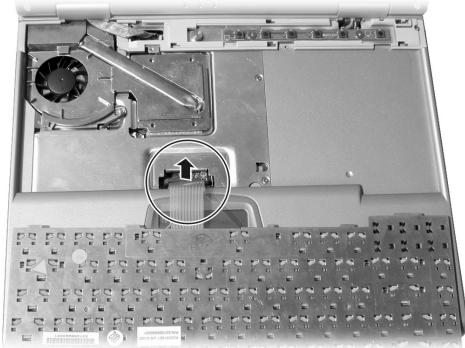

Figure 2-4
3. Slightly lift up the keyboard and disconnect the cable from the system board to detach the keyboard. (Figure 2-4)